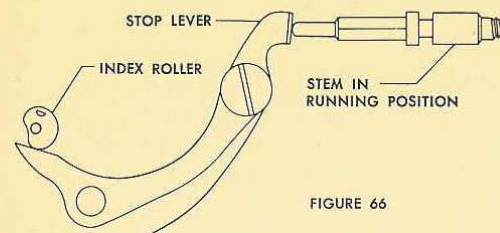

FIGURE 66
3. As the balance turns, check to see that the index roller clears the stop lever. In Fig. 66 we show the index roller (Model 500) touching the stop lever. As you know, when the stem is in running position the stop lever should be held at a position that gives ample clearance to the index roller. The cause of the error illustrated is most likely to be one of the following: